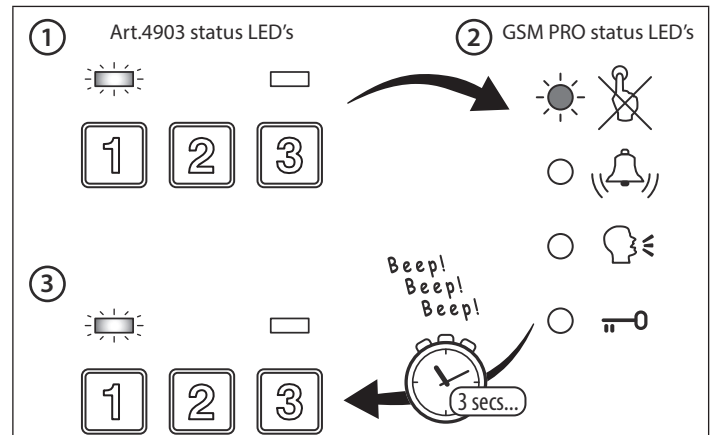

Fig. 104
2. The green data LED (**Fig.104, ①**) on the **Art.4903** and the red busy LED (**Fig.104, ②**) on the GSM will flash one after the other;
3. The green data LED (**Fig.104, ③**) will then flash once and the appropriate relay (RLY1 or RLY2 depending on setup) will activate and keypad will emit a series of 1 second interval beeps for the duration of the programmed relay time.